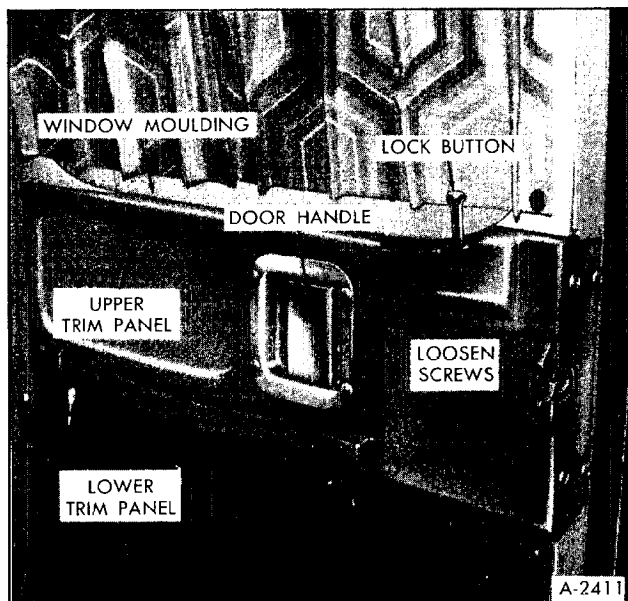

Figure 21--Removing Trim Panels
4. Remove upper trim panel and inner handle assembly by loosening screws shown in Figure 21 and removing all other screws. Use care when removing panel to avoid damaging door handle mechanism.